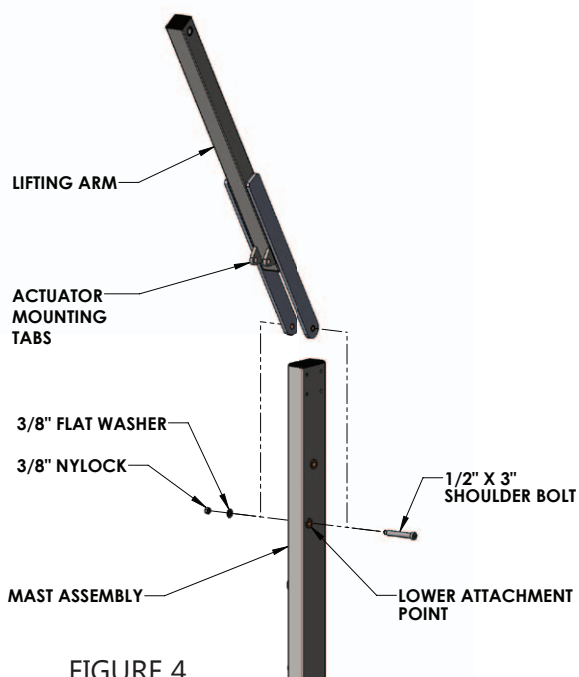

FIGURE 4
**3.** Attach the lifting arm (identified by the two actuator mounting tabs opposed to the control arm which has no tabs) to the mast assembly using the 1/2 inch shoulder bolt and 3/8 inch nylock and flat washer. Be sure the actuator mounting tabs on the lifting arm are facing downward. See FIGURE 4.